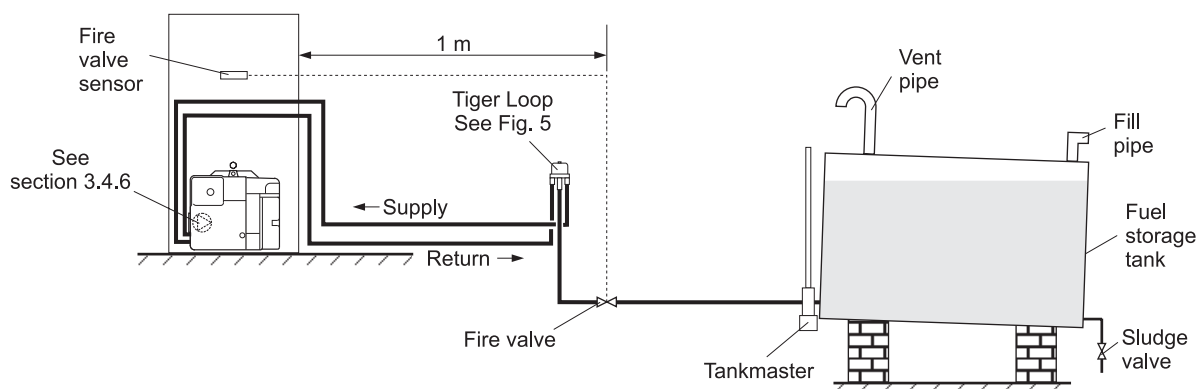

Fig. 4 - Tiger loop system
3.4.5 Tiger Loop system - (See Figs. 4, 5)
- 2 The Tiger Loop is connected close to the boiler as a two pipe system (omitting the non-return valve) as shown in Fig. 4.